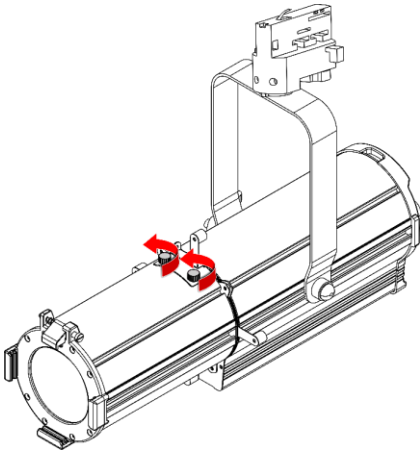

Fig. 21
- 01) Loosen the 2 **cover plate thumbscrews (12)** (see Fig. 21). Do not remove them.